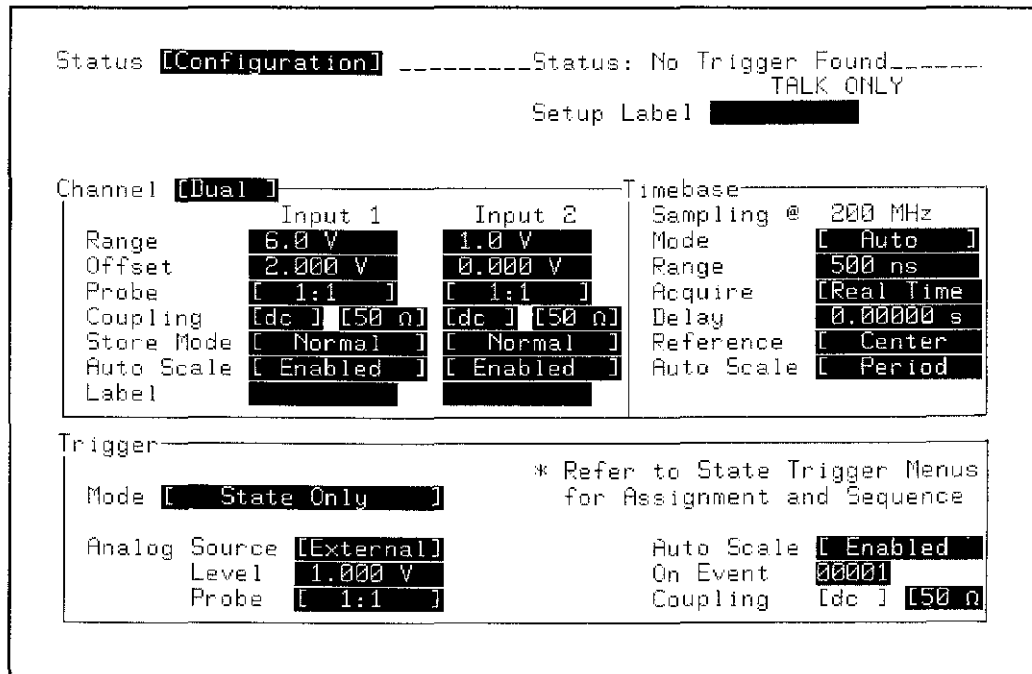

Figure 3-39. STATUS Configuration Menu
1. Configure the STATUS Configuration menu as shown in figure 3-39.